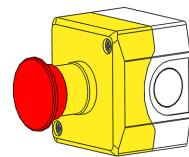

Figure 15 - Protective Device
10. Press one of the Tray-mounted side Protective Devices or the funnel mounted top Protective Devices (Figure 15). The device chosen should be varied each time the machine is used.